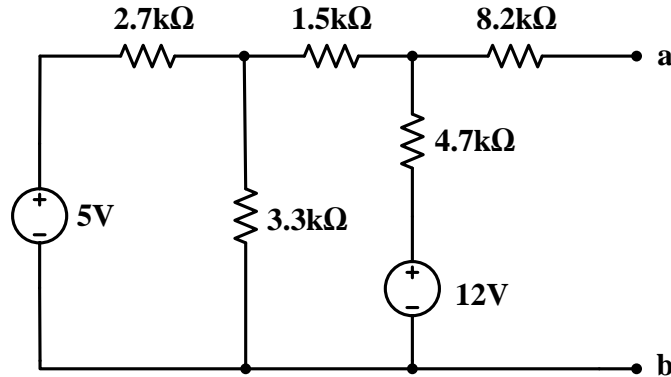

Figure 1
1. Find the Thevenin and Norton equivalent circuits w.r.t terminals a and b for the circuit given in Fig.1
1. Build the circuit shown in Fig.1